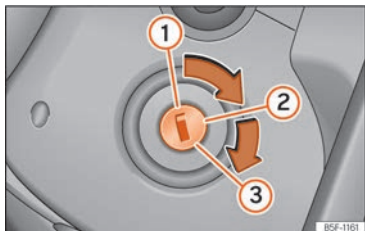

Fig. 233 Ignition key positions.
Key positions »» Fig. 233
- Turn the key to position »» **Fig. 233 ②**. Preheating occurs in diesel vehicles .
- Keep turning the key to position »» **Fig. 233 ③** without stepping on the accelerator.
- Once the engine starts, release the key. When it is released, the key returns to position **②**.
- *Vehicles with ignition locks:* Turn the key to position  **Fig. 233** .